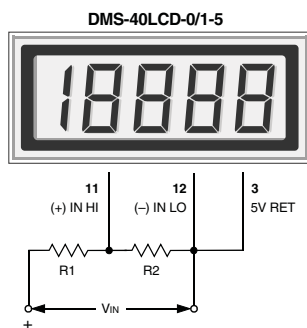

**Figure 4. Input Attenuation Circuit**
- 3. Engineering Scaling:** For measuring voltages greater than the full scale input range of a given meter, the input signal must be attenuated. A simple voltage divider (similar to that shown in Figure 4) will scale the input to within the range of the selected meter. R1 and R2 should be precision,  $\pm 1\%$ , metal film resistors with absolute TCR's less than 50ppm/°C. See Ap Note 4 for more information on engineering scaling.